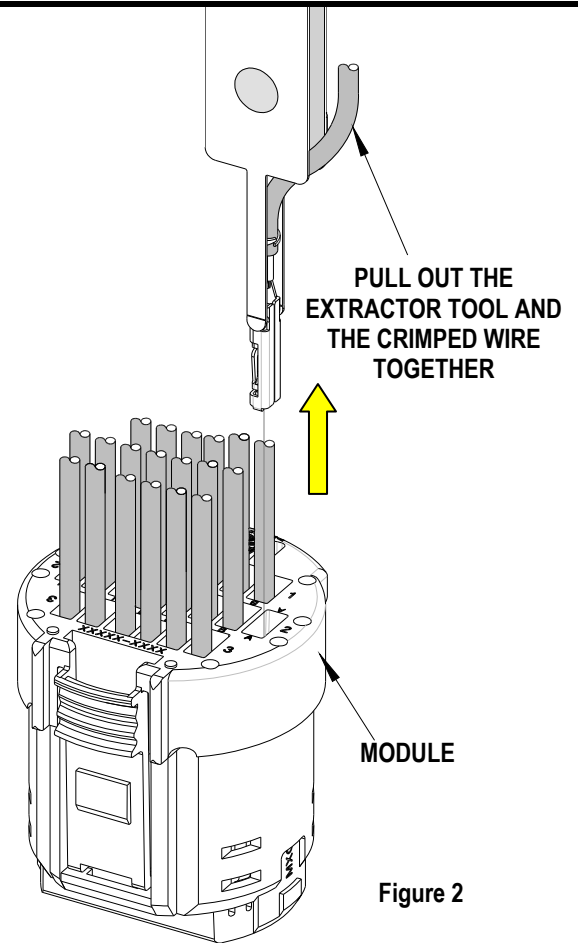

Figure 2
4. Continue to insert extraction tool into module until the locking tabs of the module have been depressed. See Figure 2.